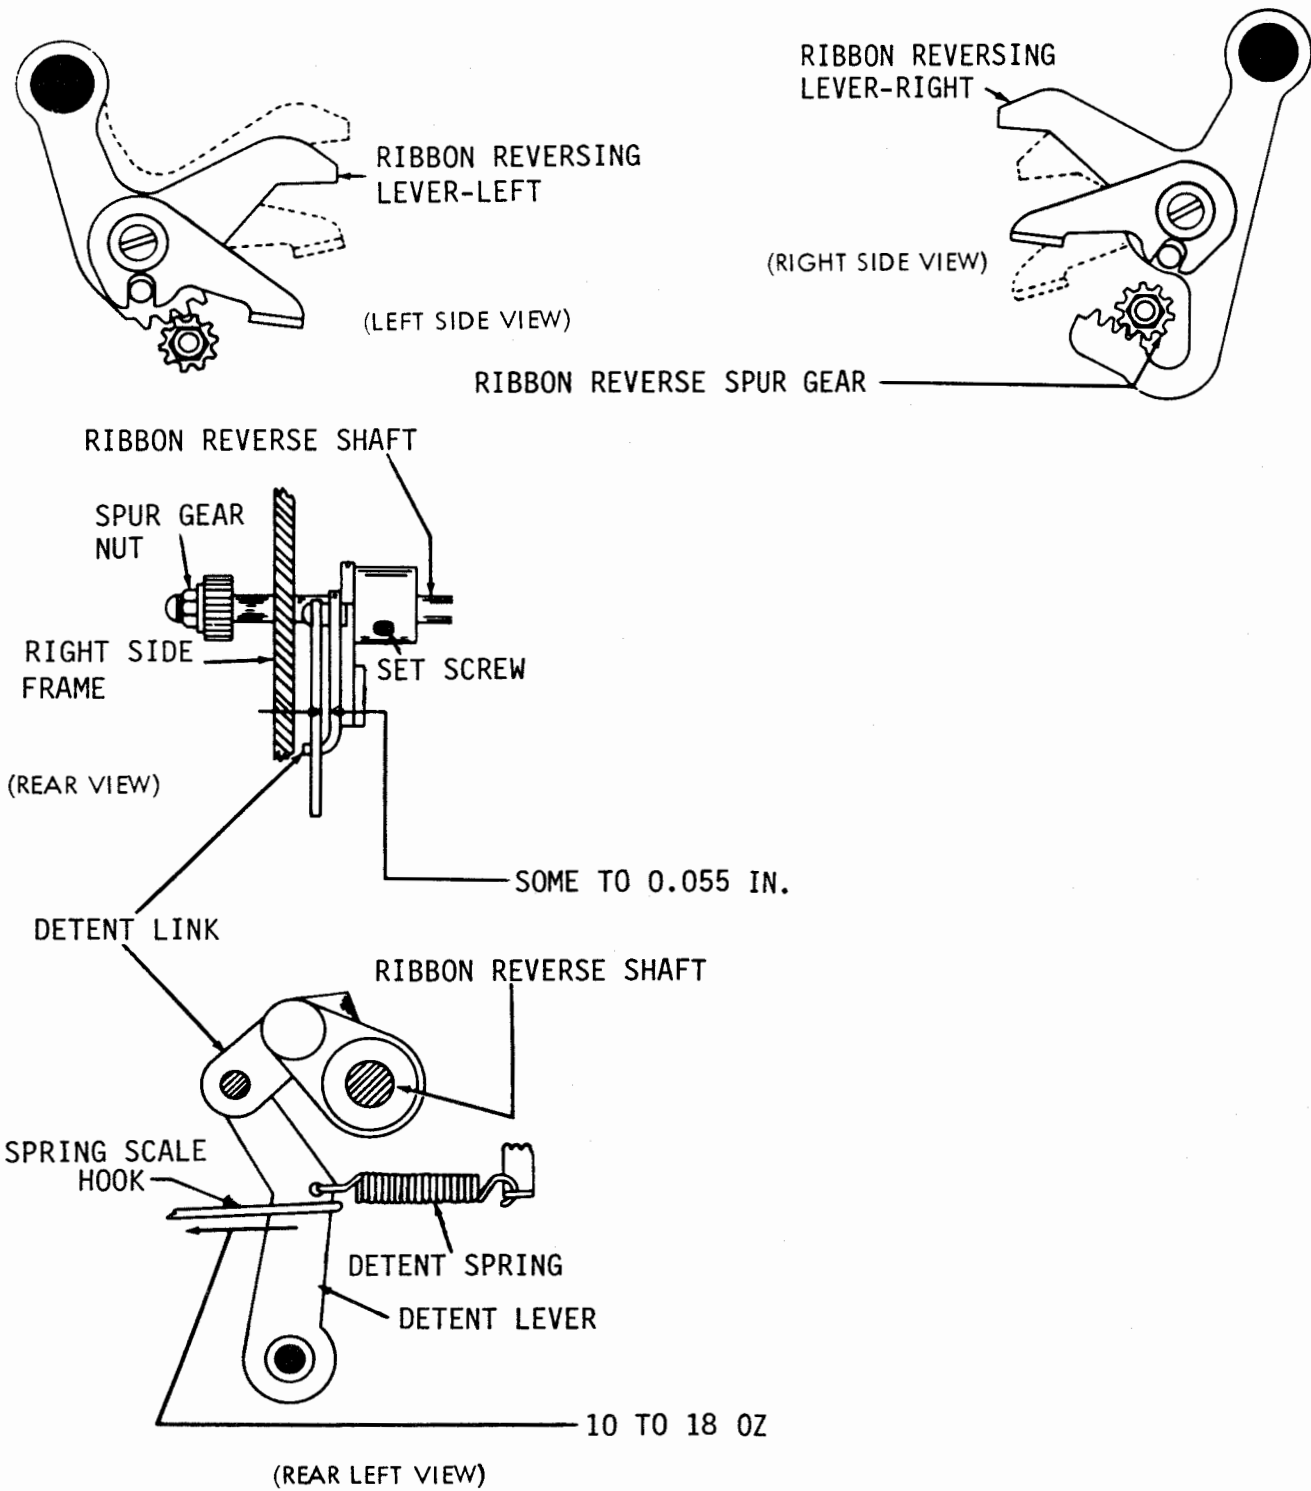
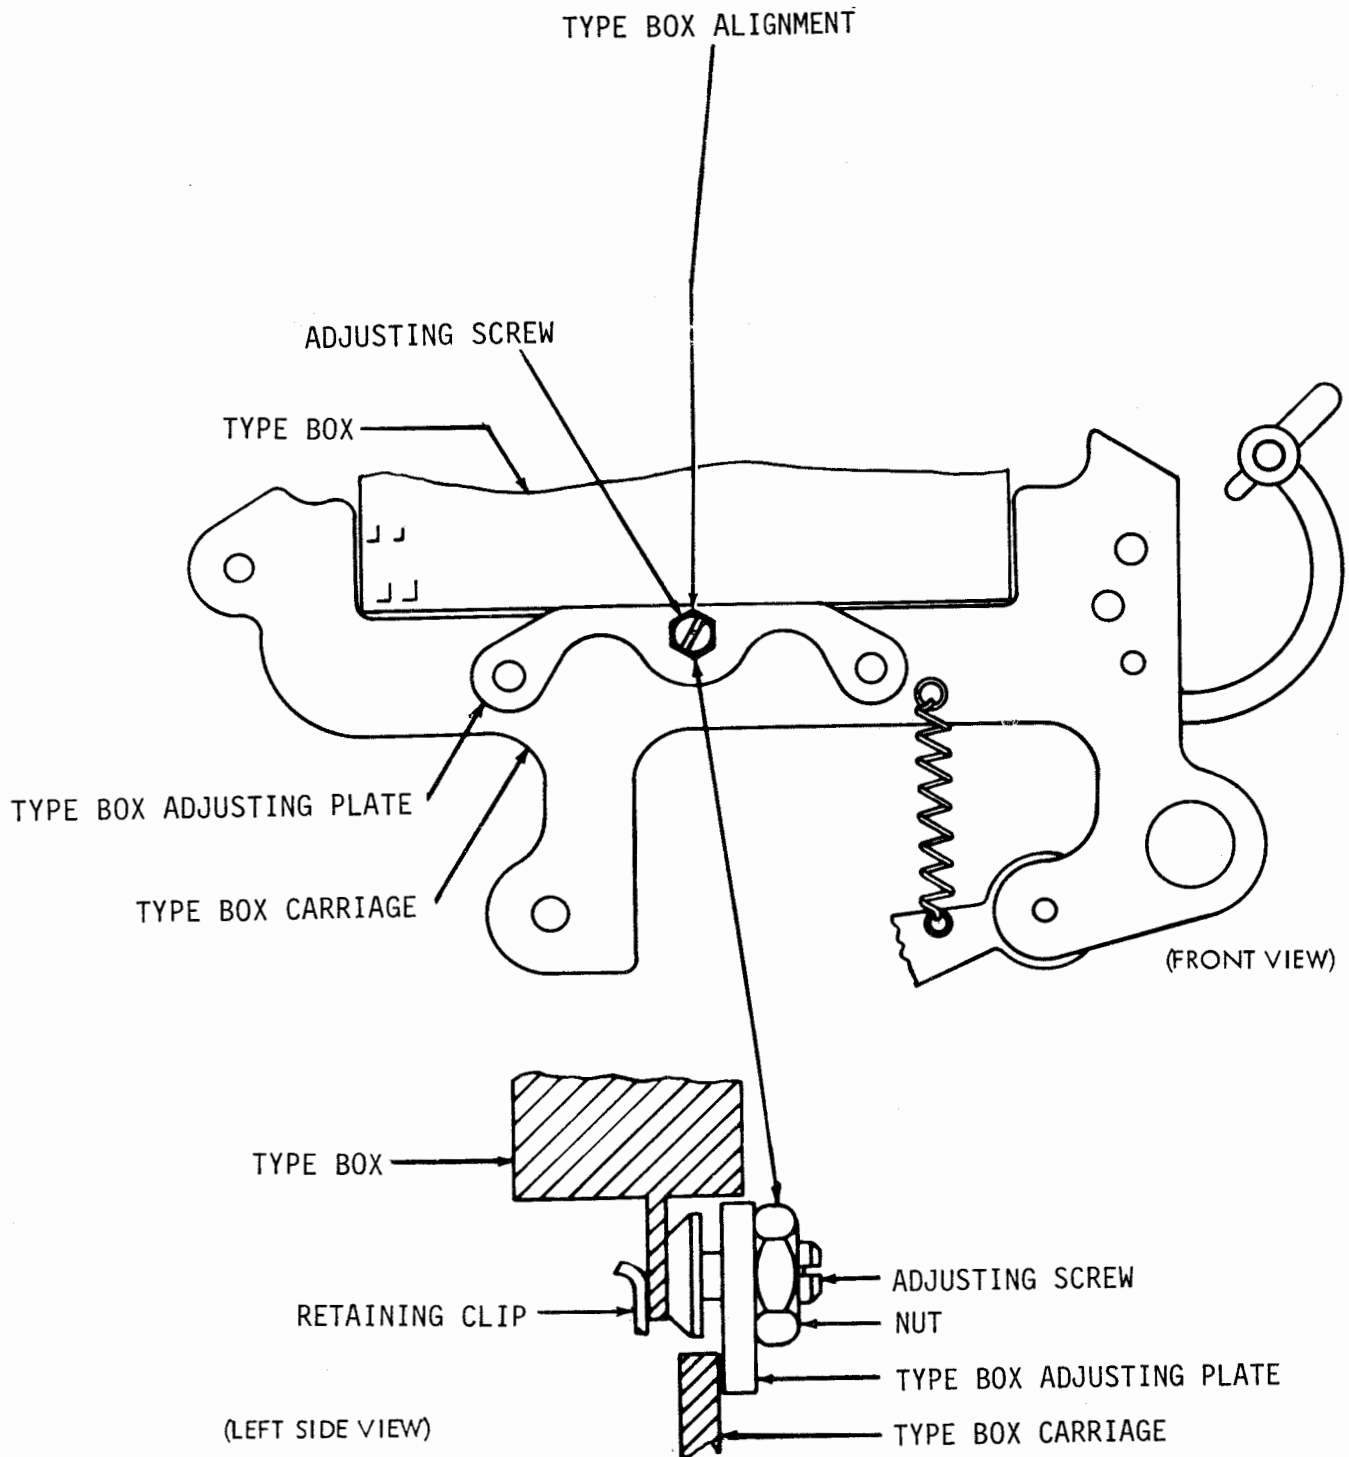

Figure 6-65. Ribbon Reverse Detent, Ribbon Reverse Detent Lever Spring, and Ribbon Reverse Spur Gear
Figure 6-66. Type Box Alignment
(a) Refer to figure 6-65.
(20) Ribbon Reverse Spur Gear. Adjust ribbon reverse spur gear as follows:
- (a) Refer to figure 6-65.
(21) Type Box Alignment. Adjust type box alignment as follows:
- (a) Refer to figure 6-66.